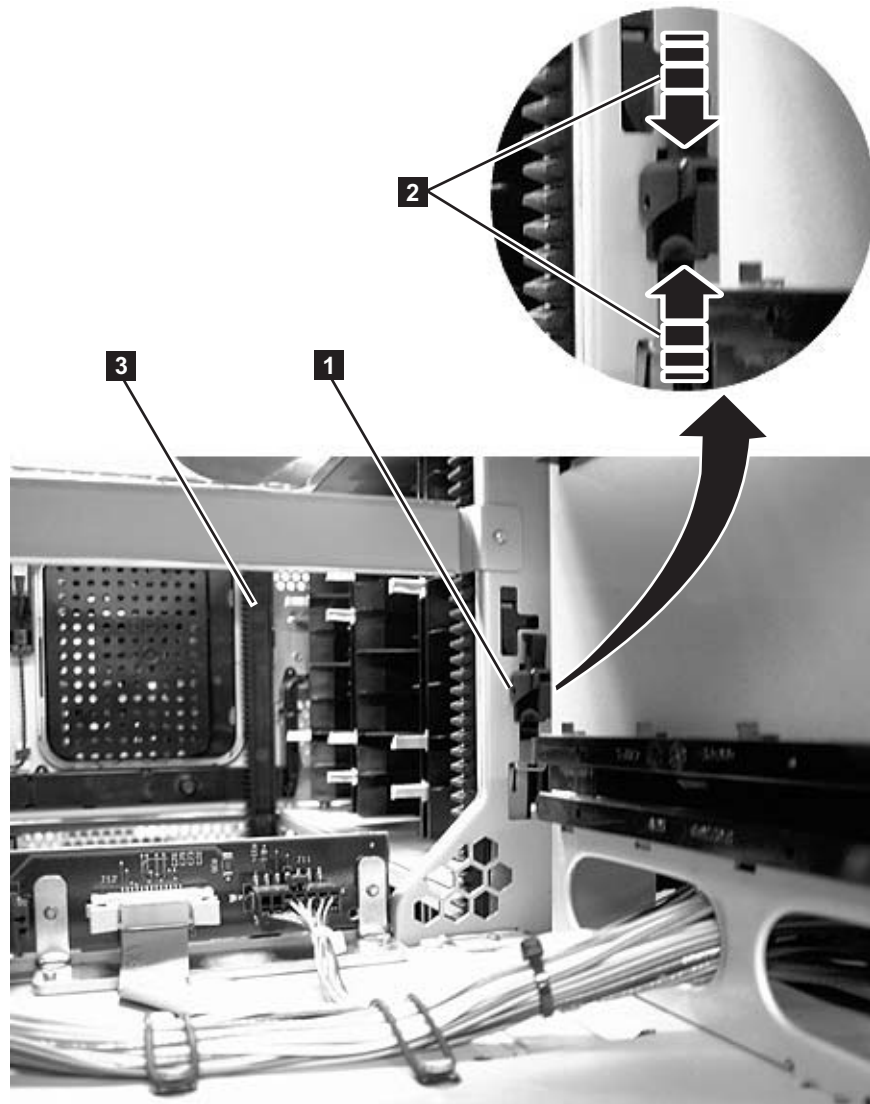

Figure 12-2. Gear racks and gear rack locking mechanism
3. Disengage the rear (**1** in Figure 12-2) and front (**3** in Figure 12-2) gear racks in the control module. While pinching the gear rack locking mechanism (**2** in Figure 12-2), push the gear rack up until it locks in place. To release the gear rack and move it up, follow the steps below.